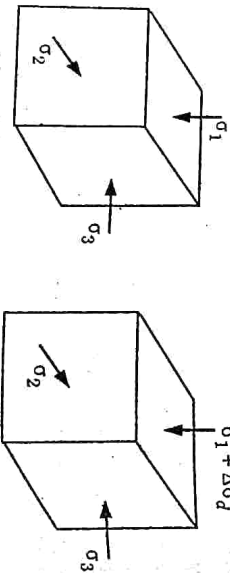

Fig. 4.22.1. Pore pressure under deviator stress.
1. Let us consider the element of a saturated soil which is in equilibrium under three principal stresses σ_1, σ_2 and σ_3 , are shown in Fig. 4.22.1.